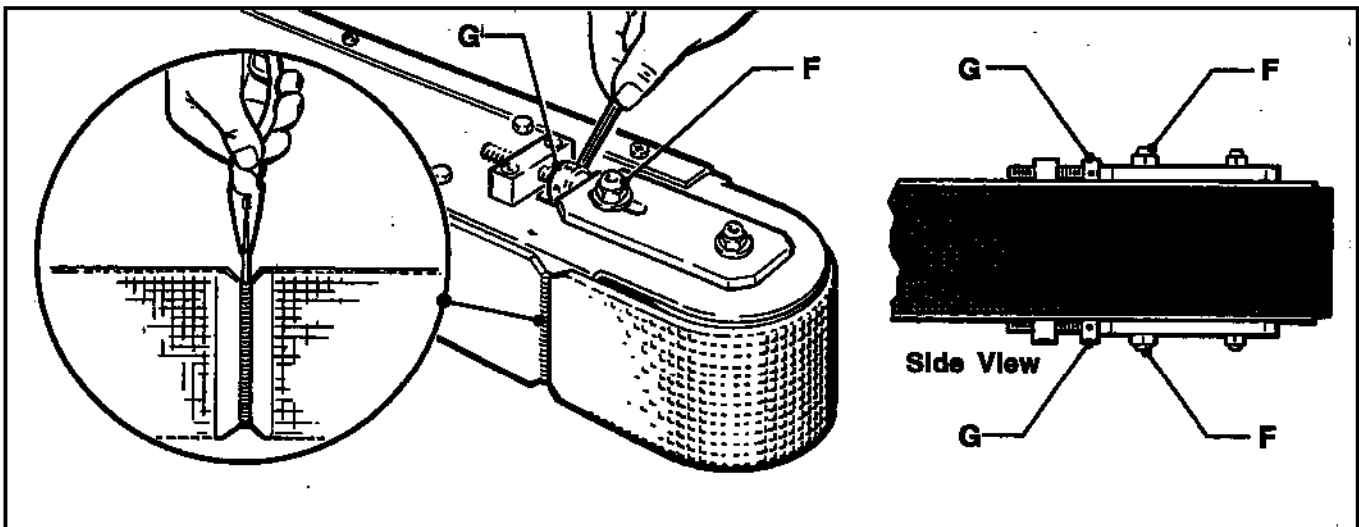

Figure 4-5 – Box Drive Belt, Lower
5. Loosen, but do not remove the lock nut (F) on both upper and lower belt tension assemblies. See Figure 4-5.
6. Turn belt adjustment screws (G) clockwise on both the upper and lower tension assemblies to loosen belt.
8. Install new drive belt around drive rollers and install pin as shown in Figure 4-5. Pin must not extend beyond edge of belt.
9. To adjust drive belt tension, turn adjustment screws (G) equally on both the upper and lower tension assemblies. Turn screws counterclockwise to increase tension or clockwise to decrease tension.